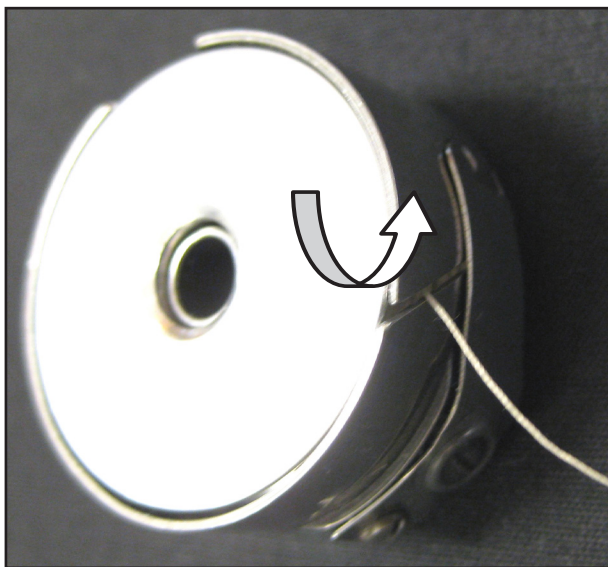

Figure 12
2. Slide the thread through the slot (Figure 12) and under the tension spring leaving 5-6 inches of thread hanging loose (Figures 12 and 13).